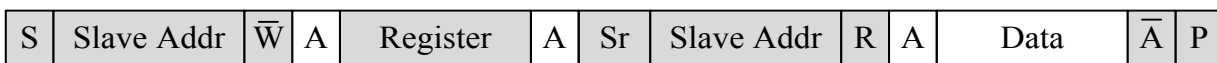

Figure 3-27 Data format (Master reads from Slave)
The temperature sensor response curve and the calibration curve are shown as Figure 3-26 and Figure 3-27.
- Read Data (Figure 3-27)
- 1) Master sends Start condition (S)
- 3) Slave sends ACK (A) response
- 5) Slave sends 1bit ACK (A) response
- 7) Master sends 7bit Slave Address and 1bit Read flag (R) represents as high
- 8) Slave sends 1bit ACK (A) response